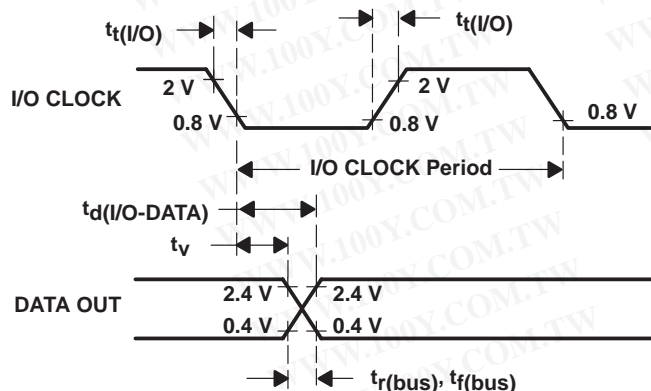

Figure 5. I/O CLOCK and DATA OUT Voltage Waveforms
9. I/O CLOCK period = 1/(I/O CLOCK frequency). Sampling begins on the falling edge of the third I/O CLOCK, continues for seven I/O CLOCK periods, and ends on the falling edge of the 10th I/O CLOCK (see Figure 5).